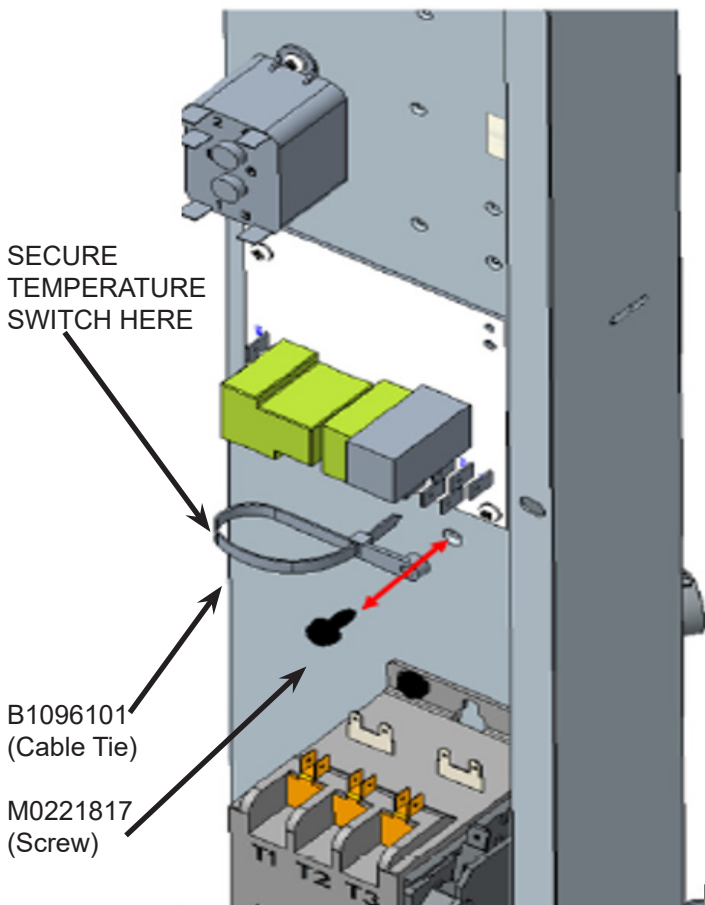

Figure 3
4. Using the included cable tie and screw, secure the temperature switch to the control box. See figure 3 for installation instructions.